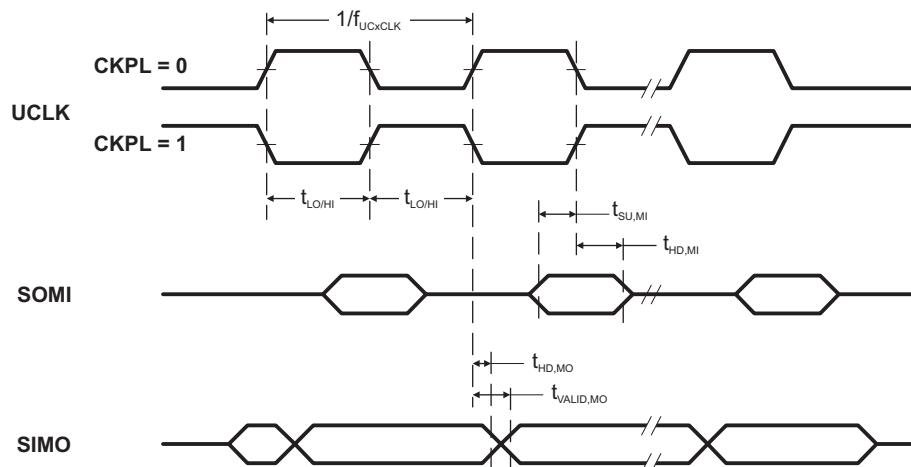
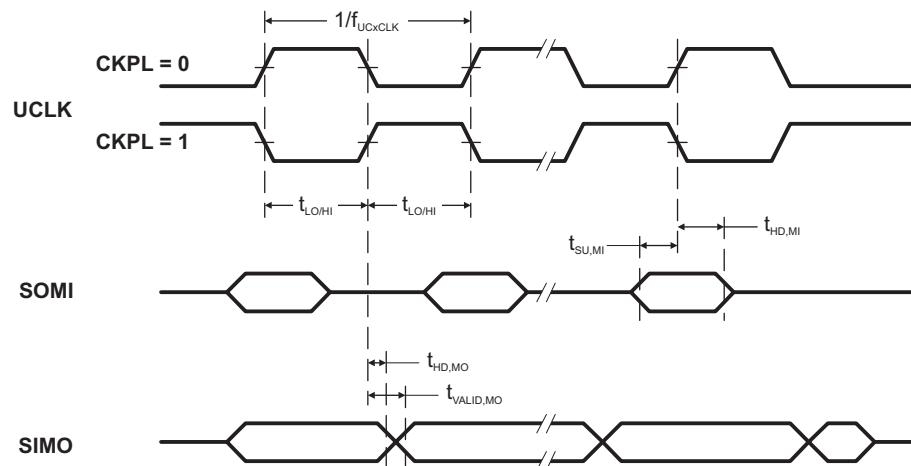

Figure 11. SPI Master Mode, CKPH = 0
Figure 12. SPI Master Mode, CKPH = 1
(see Note ⁽¹⁾, Figure 11 and Figure 12)
(2) Specifies the time to drive the next valid data to the SIMO output after the output changing UCLK clock edge. Refer to the timing diagrams in Figure 11 and Figure 12.
(3) Specifies how long data on the SIMO output is valid after the output changing UCLK clock edge. Negative values indicate that the data on the SIMO output can become invalid before the output changing clock edge observed on UCLK. Refer to the timing diagrams in Figure 11 and Figure 12.
- (2) Specifies the time to drive the next valid data to the SOMI output after the output changing UCLK clock edge. Refer to the timing diagrams in Figure 11 and Figure 12.
- (3) Specifies how long data on the SOMI output is valid after the output changing UCLK clock edge. Refer to the timing diagrams in Figure 11 and Figure 12.